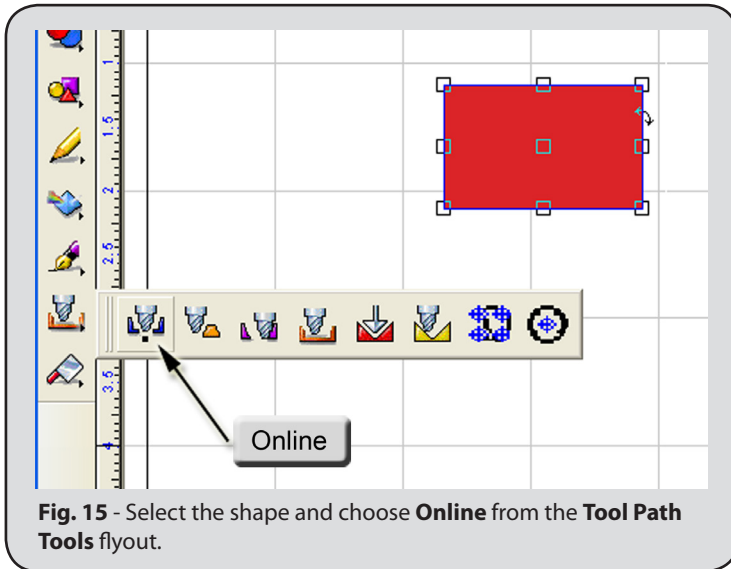

Fig. 15 - Select the shape and choose **Online** from the **Tool Path Tools** flyout.
2. With the rectangle shape selected, left-click the **Online** button from the **Tool Path Tools** flyout (Fig. 15).